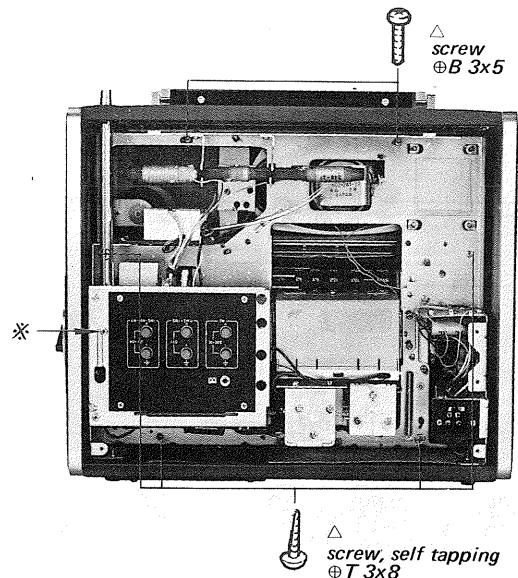

Fig. 2-3
- Remove the six screws marked  $\Delta$  which fasten the front panel to the chassis in Fig. 2-3.